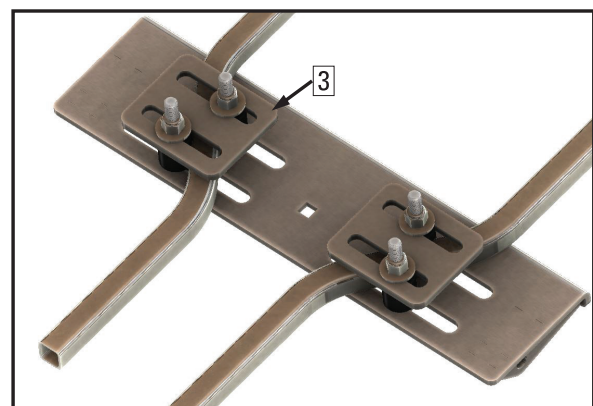

Figure 9: Installation with Spacer Plates
Note: If installation of the upper mount plate (2) is obstructed, substitute the spacer plates (3) for the upper mount plate as shown in Figure 9.